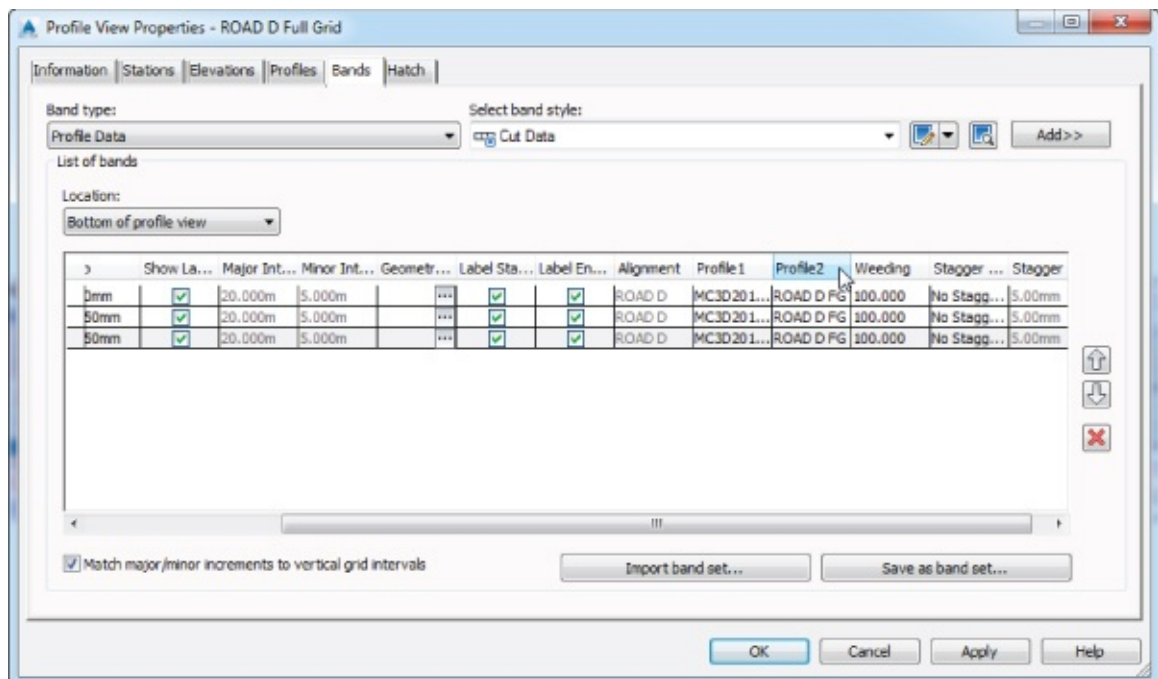

Figure 7.60 Setting the profile view bands to reference the ROAD D FG profile
21. For all three rows change the value of Profile2 to **ROAD D FG**, as shown in Figure 7.60.